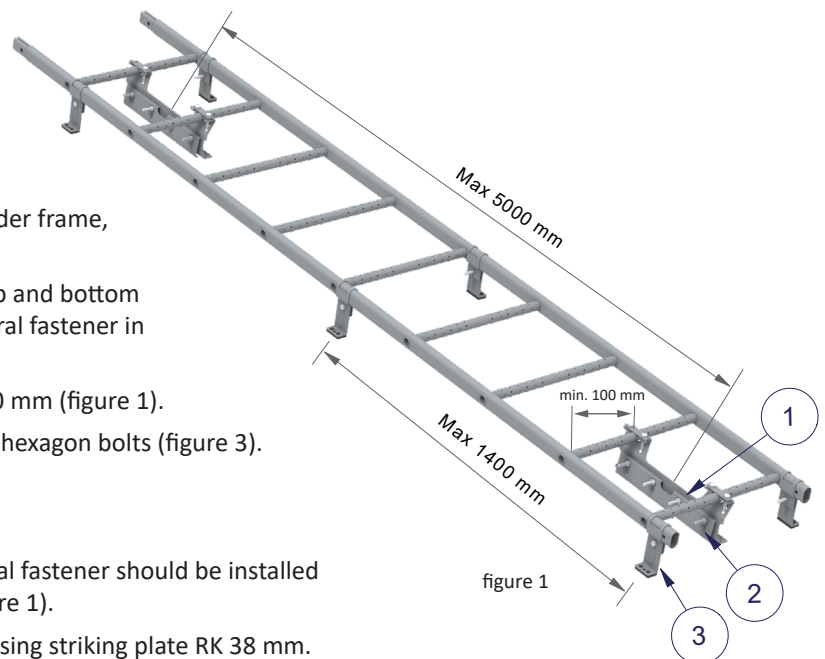

figure 1
- The maximum distance between central fasteners is 5000 mm (figure 1).
- Leave one rung free at the bottom. The roof ladder central fastener should be installed at a minimum distance of 100 mm from the side rail (figure 1).